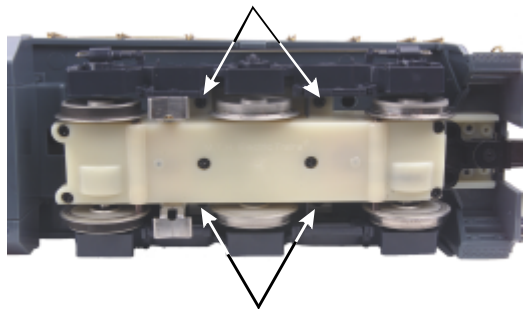

Figure 13: Truckside Mounting Screw Locations
1. Remove the truck sides from the truck block in order to slip the new tire over the grooved drive wheel. Each truck side is attached to the truck block via (2) screws as noted in Figure 13.
1. Turn the locomotive over and locate and remove the truck side screws as detailed in Figure 13.